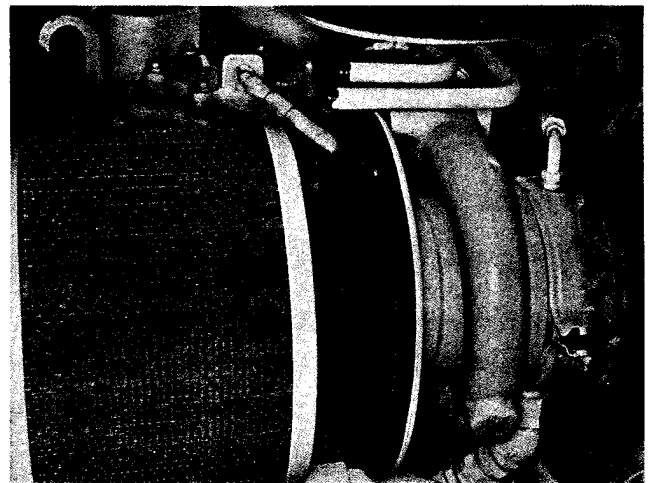

Fig. 2-15, (V21989). Removing air silencer from VT8-370 engine
1. Remove air silencers. Fig. 2-15.